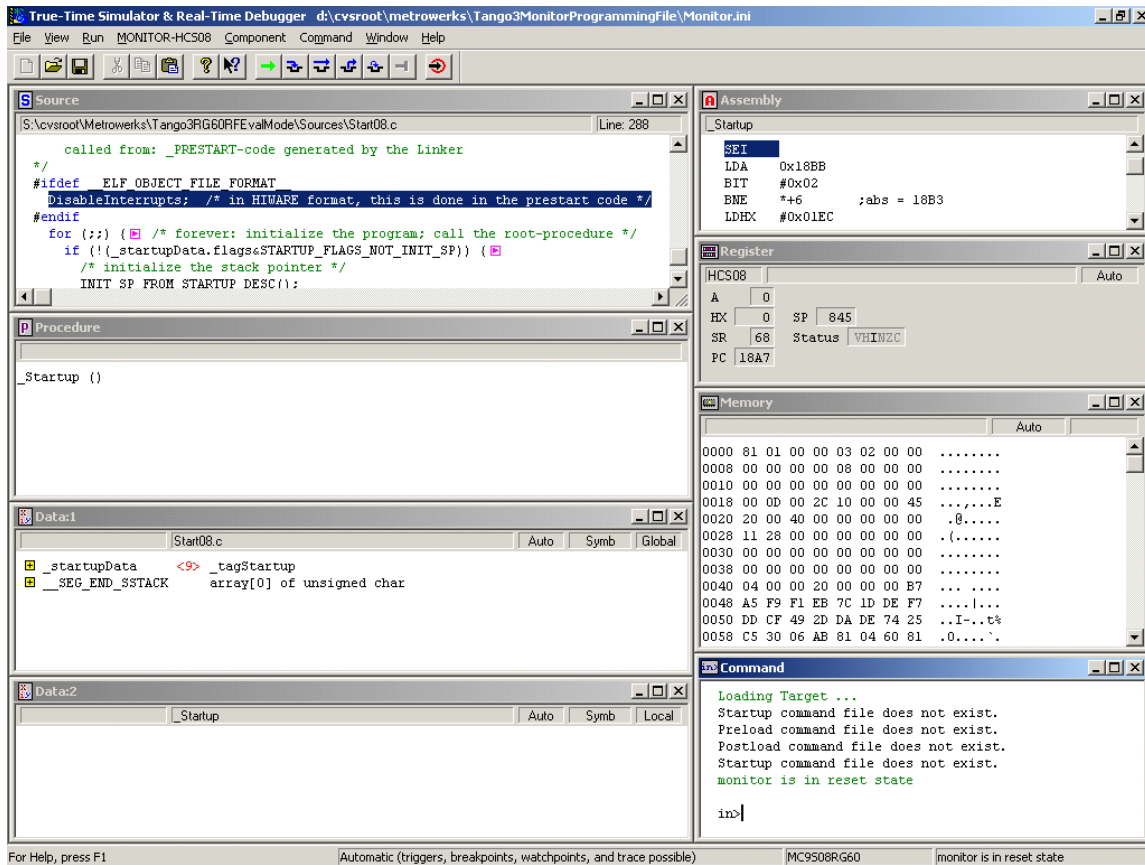

Figure 4. CodeWarrior debugger after successful programming
11. If the MCU's FLASH memory is blank, the debugger will program the Tango3 monitor into memory. You should see the screen shown in Figure 4 when programming is complete. Go to step 15.
14. The debugger will program the monitor into the MCU's FLASH memory. You should see screenshot shown in Figure 4 when programming is complete.